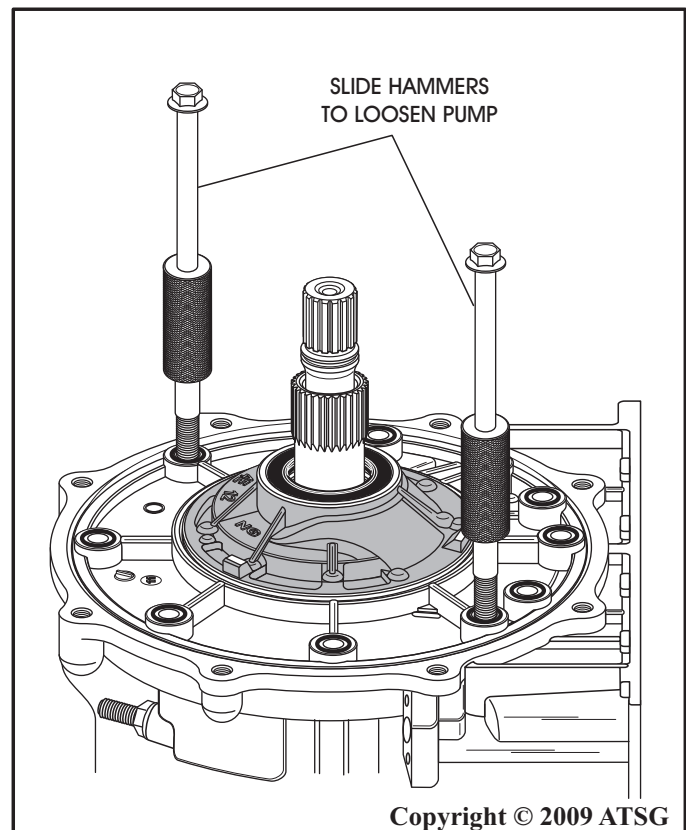

Figure 43
16. Install two slide hammers into positions shown in Figure 43.